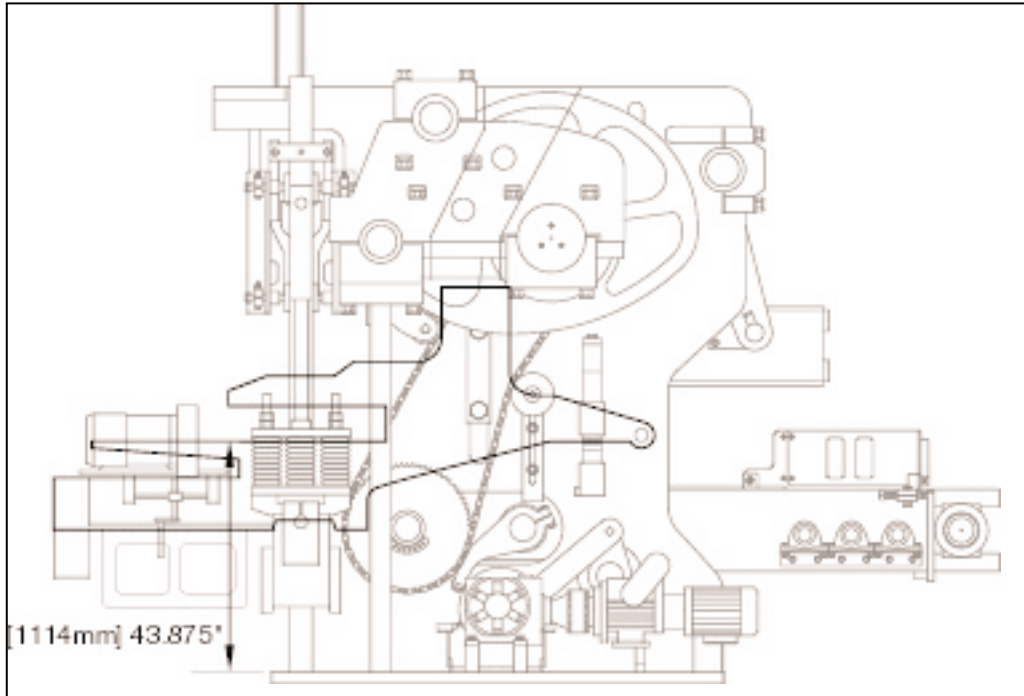

Figure 4.48 INNER FRAME ADJUSTMENT.
4.4.2 Adjust the inner frame so that the mold throat is **1114mm [43.875"]** above the top on the base plate (figure 4.48). **63mm [2 1/4"]** of spacers required. To do so, follow this procedure: